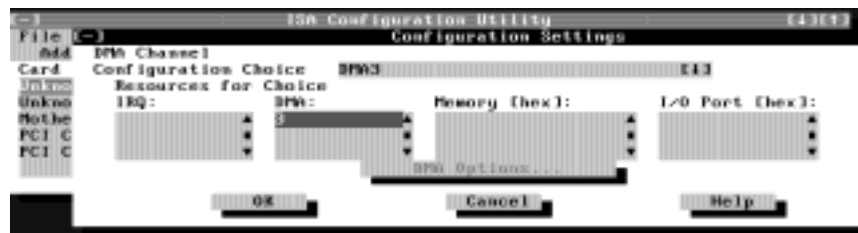

Figure 4-6. Configuration Settings Dialog Box for Assigning a DMA Channel
- To change individual resource values for the current configuration setting, select the resource value that you want to change and click the Options button located below the resource values (see Figure 4-6).**